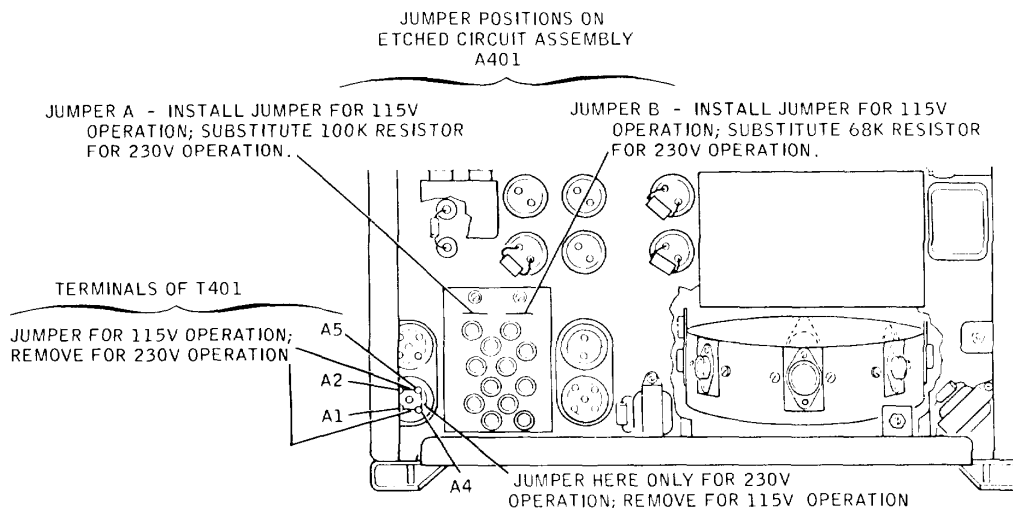

Figure 2-1. Power Connections for Operating the Oscilloscope on 230-volt Power Line
(1) Carefully place the oscilloscope with its front panel down, resting it on its carrying handles.
(2) Remove the four cabinet-retaining screws from the rear of the instrument, and lift off the cabinet.
b. Locate the power transformer T401 (see figure 5-10.) Then change its primary wiring from parallel to series connection as follows, in accordance with the detail illustration in figure 2-1.
(1) Remove the jumpers between A1-A4 and A2-A5.
(2) Connect a jumper between A4-A5.